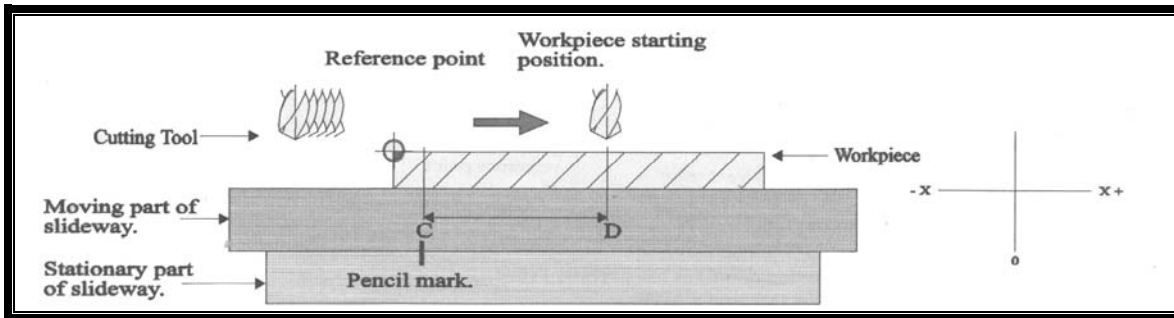

Figure 4 Automatic reference point evaluation
Figure 4 on page 9 shows how to obtain the reference point graphically. The steps in Table 9 on page 9 discuss how to achieve this on the counter.
8. Write down the distance traveled between your chosen reference point and the work piece starting position. (Distance C-D in Figure 4 below). Note whether the number is positive or negative.	The number displayed is the distance between your work piece starting position and the chosen reference point.